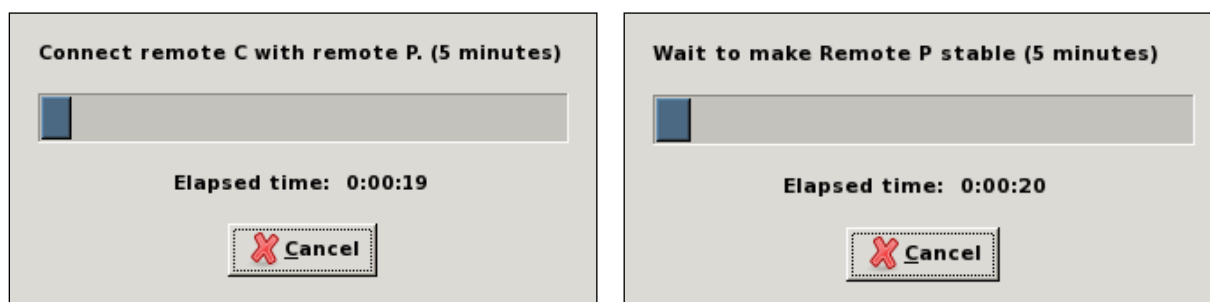

Figure 83 The two Depolarize dialogs
- Follow the instruction on the first dialog (Figure 83)